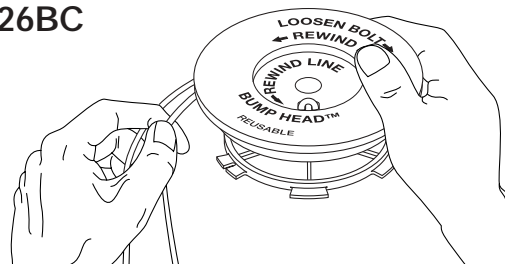

Fig. 39
7. Wind the lines in tight even layers, onto the reel (Fig. 39 or 40). Wind the line in the direction indicated on the inner reel. Place your index finger between the two lines to stop the lines from overlapping. Do not overlap the ends of the line. Proceed to step 11.